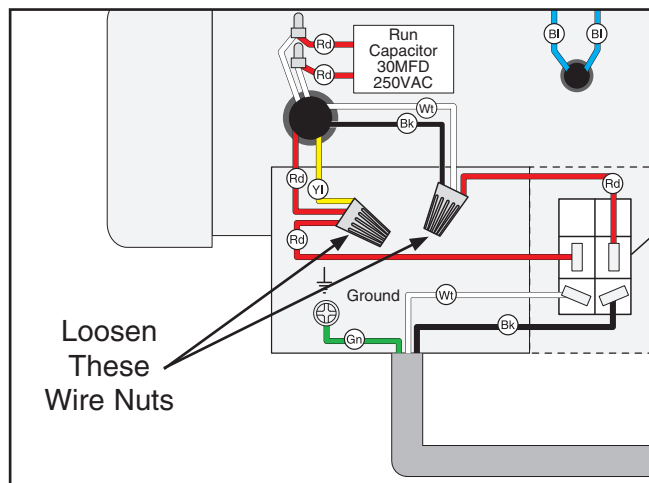

Figure 4. Location of wire nuts to be loosened on when converting voltage.
2. Open the motor junction box, then loosen the wire nuts indicated in **Figure 4**.